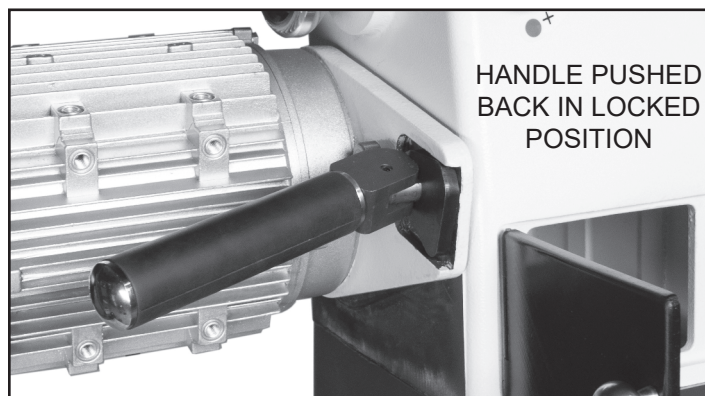

FIG. 32
3. Pull the Belt Tensioning Handle forward, away from the motor. Figure 32.
5. With the Poly-V-Belt positioned on the pulleys, raise the tensioning handle so that the weight of the motor provides the needed tension on the belt. Then secure the tensioning handle in place by pushing the handle back towards the motor. Figure 32.
3. Pull the Belt Tensioning Handle forward, away from the motor. FIG. 41. (See Page 18, Figures 32 & 33).